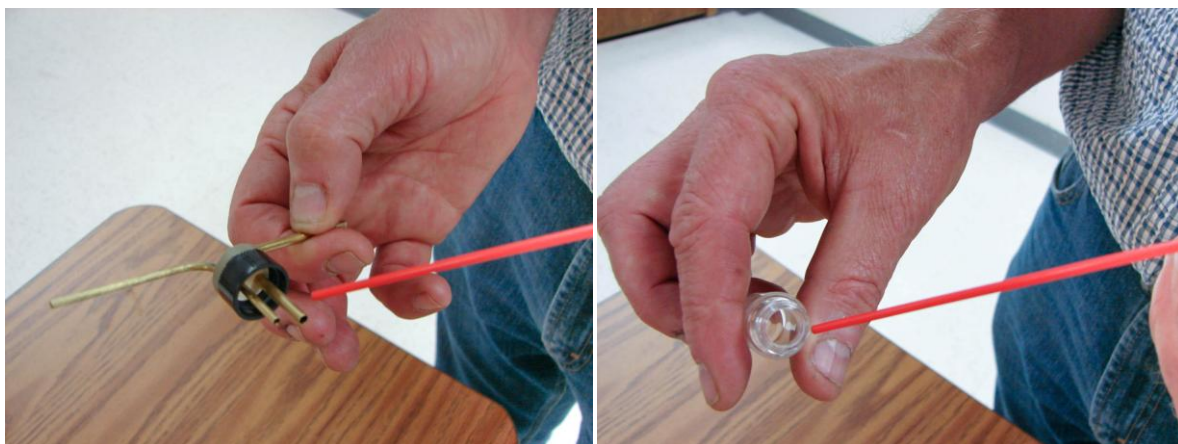

Figure 10: Cleaning the Glass Bead Dispenser
- 2.) Using the duster, clean the glass bead dispenser by blowing air through it (Figure 10). Make sure the bottom of the cap and tubes are cleaned as shown on the left in Figure 10. Also clean the dispenser's glass canister as shown on the right.